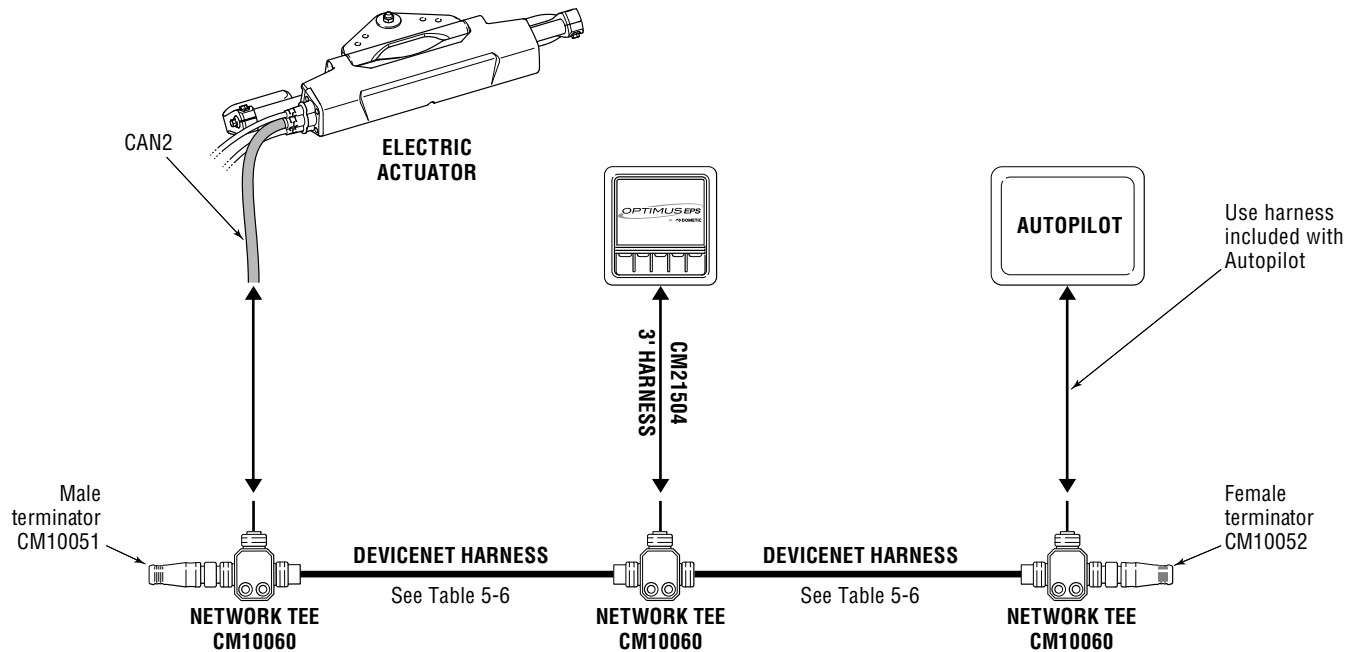

Figure 5-27.
You will need to build a small CANbus network with a node (tee connector) for each actuator, each display, and for the autopilot. Locate the nodes close to the devices and use an extension harness to create a network backbone. Your network will look similar to figure 5-27 (only one actuator is shown, but you will need to connect both in a multi-engine system). The CAN2 bus is powered by the SCU, so a separate power supply connection is not required.
3. Ensure that you have two – and only two – terminating resistors, one at each end of the network backbone, as shown in figure 5-27.